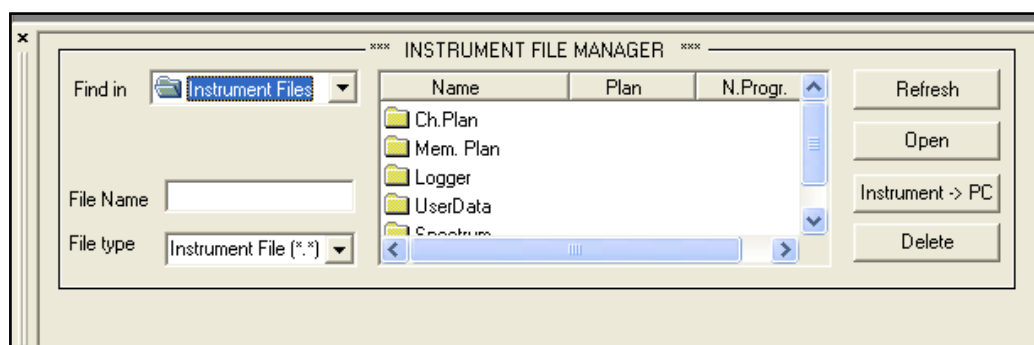

Figure 4.1
- d) The folder Read File will be shown on the screen. Open the Logger folder (Fig. 4.1),
- a) Open the Logger folder, (See Fig. 4.1)
- a) Open a Logger file, (See Fig. 4.1)
- a) Open the Logger folder (See Fig. 4.1),
- a) Open the logger folder (See Fig. 4.1 and 4.2),
4. Open the Spectrum folder and open the Spectrum file (See Fig. 4.1)
- d) Your monitor will show the Instrument File manager folder; open the Spectrum folder by clicking twice (Fig. 4.1)
- d) The Instrument File Manager window will appear on your screen; open the User Data file by clicking twice (Fig. 4.1)